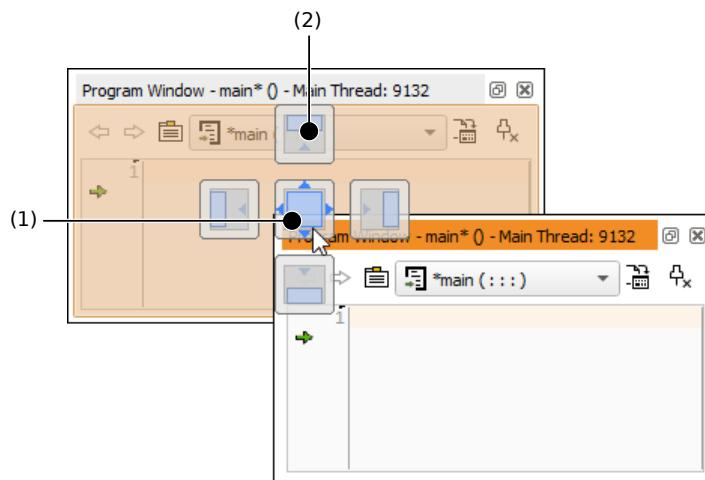

Figure 1.1: Drop indicators: (1) Tab the floating window, (2) Dock the floating window at the top.
2. Notice the drop indicators. (See figure 1.1.)
1. Click and drag the title bar of the floating window. (On dragging, drop indicators appear that show where the window will be docked. See figure 1.1.)